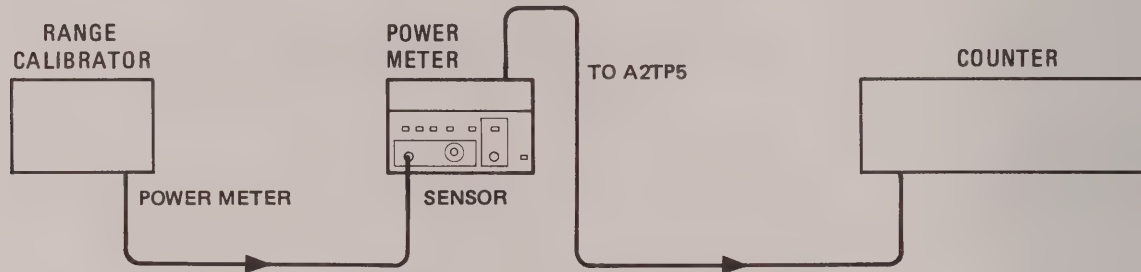

Figure 5-4. Multivibrator Adjustment Setup
- Connect the equipment as shown in Figure 5-4.